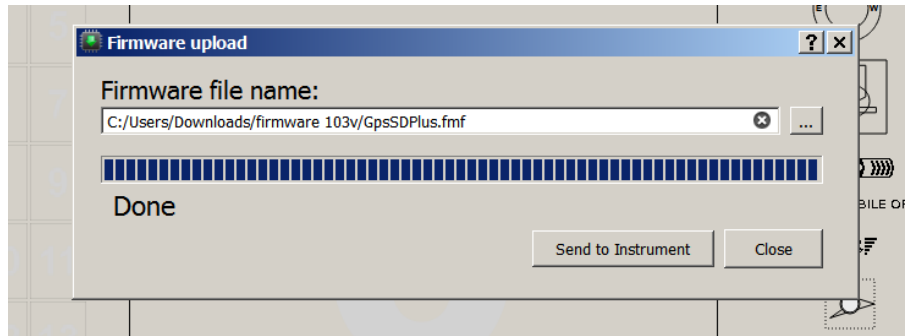

Figure 7.2: Firmware Update Done
6. When the process is finish the application shows a message saying *complete* (see Figure 7.2). Disconnect the USB cable and the GPS will start to work.